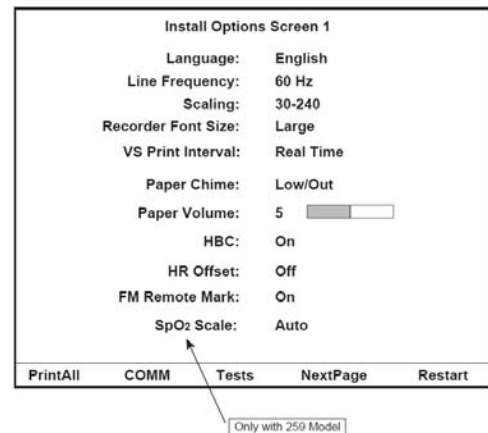

Figure 2-9
5. Upon entering the access code, press the Trim Knob Control to access *Install Options Screen 1* screen. ("Figure 2-9").